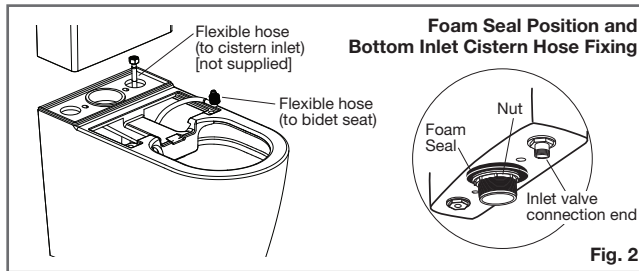

Fig. 2
- 1- Ensure the foam seal at base of cistern is securely attached to cistern base, as detailed in **Fig. 2**.
- 2- Connect flexible hose (for cistern) to inlet valve, as detailed in **Fig. 2**. Position cistern onto pan and align the cistern fixing holes with the threaded fixing holes located in the cistern platform.
- 1- Securely attach the self-adhesive foam seal around the outlet on the base of cistern, as detailed in **Fig. 2**. Remove inlet valve to gain access to the right hand cistern fixing hole.